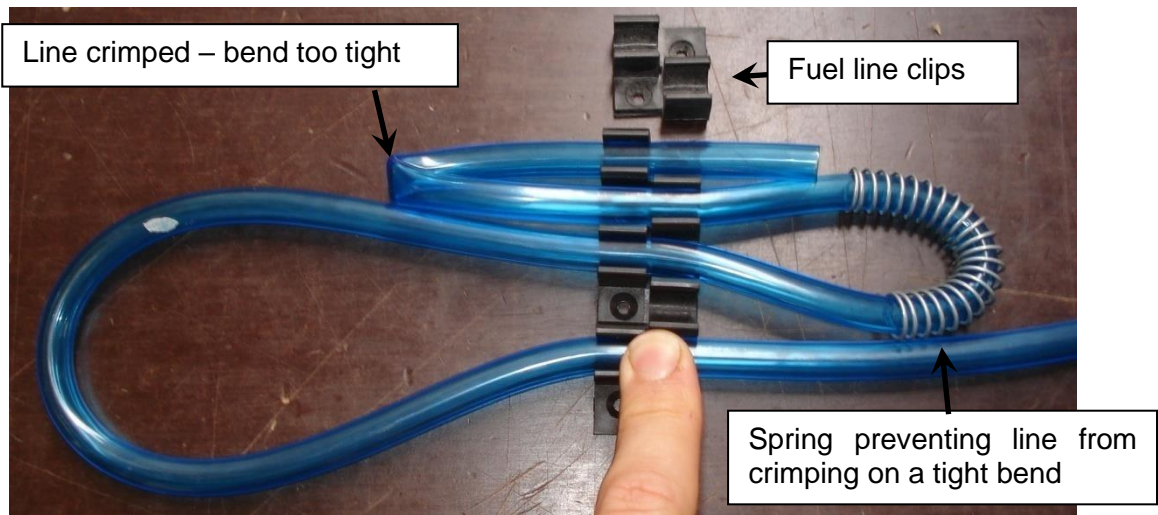

Figure 177 – Sample Fuel Line Details (all J-Series)
- Ensure line restraints are spaced at intervals no greater than 400mm (In some cases fuel lines are bundled inside tubes which are Velcro-ed to the aircraft – this is sufficient restraint.) If new restraints are added, plastic line clips can be bonded to the aircraft structure. (Figure 177 refers). Fasteners such as screws, which damage the structure, should not be used.
- Care must be taken when re-routing lines to avoid bending the hose around too sharp a corner – the flexible hose used can crimp itself off if bent too sharply. If a sharp bend is unavoidable a spring may be threaded over the line to prevent it crimping. Springs must be a snug fit on the hose & are available from Jabiru Aircraft if required. Figure 177 refers.